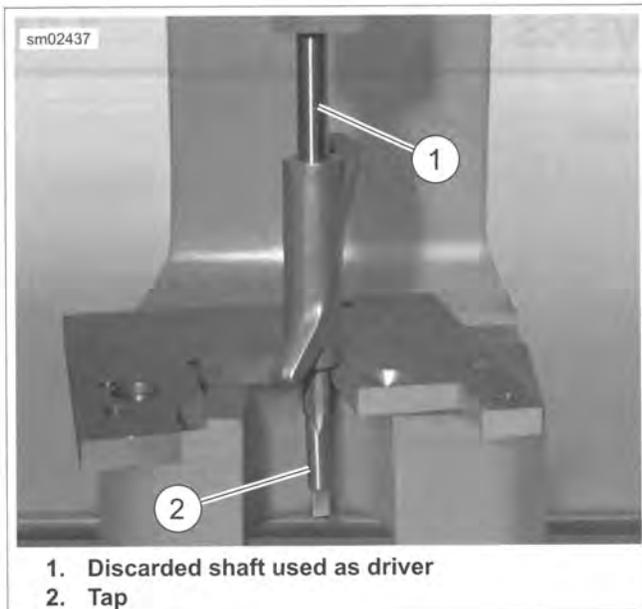
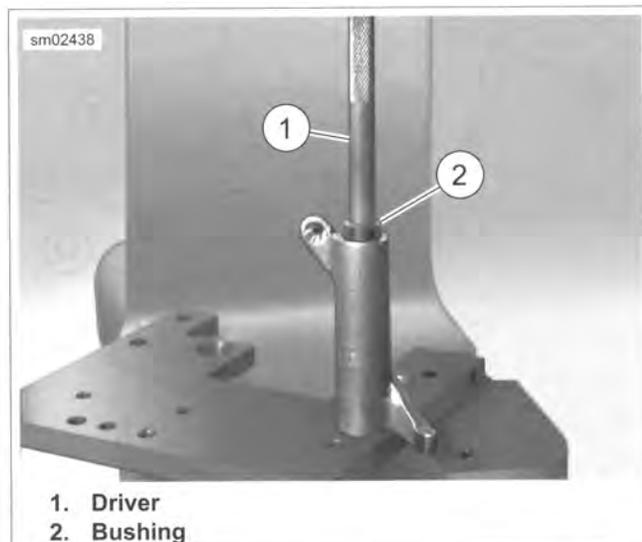

Figure 3-32. Removing Bushing
Figure 3-33. Installing Bushing
1. See Figure 3-32. Remove bushing from rocker arm:
- a. Turn a 9/16-18 tap (2) into bushing until tight.
- c. Slide a discarded rocker arm shaft (1) through open end of rocker arm until contact is made with tap.
2. See Figure 3-33. Using a suitable driver, press **new** bushing into side of rocker arm until flush with casting. Be sure to orient bushing so that split line faces top of rocker arm.